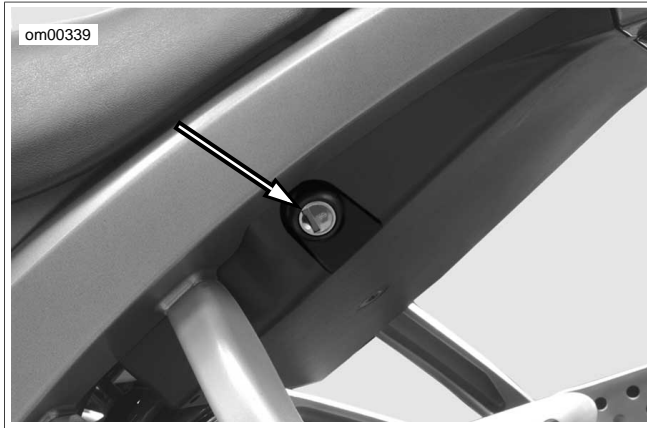

Figure 2-191. Seat Lock Location: Lightning Models
1. See Figure 2-191. Insert key into seat lock and rotate 1/4 turn clockwise.